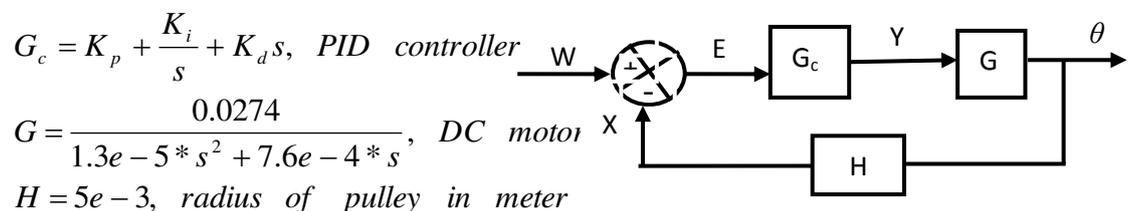

Fig. 2: Block diagram of the unit
Fig. 1 shows the linear position controller unit, which consists of a dc motor and a carriage. The carriage consists of a belt drive and a rotary encoder, which converts rotational motion to linear motion. The transfer function G of the dc motor was derived during lab #4. Fig. 2 shows the block diagram of the linear position controller unit with H representing the sensor (PT) that converts rotational motion to linear motion.
- a. Obtain the closed-loop transfer function of the linear position controller unit represented in Fig. 2. For easy simplification, let $a = 0.0274$, $b = 1.3e-5$, $c = 7.6e-4$ and $d = 5e-3$, such that: